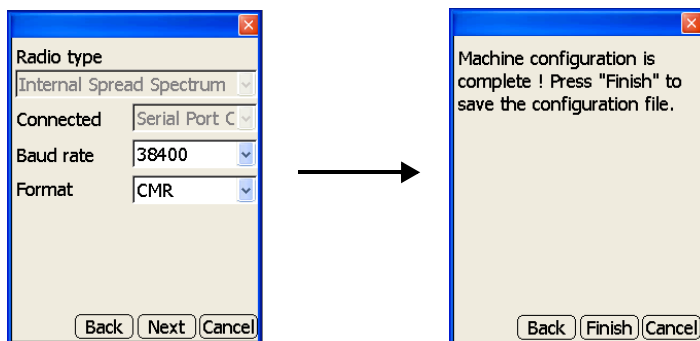

Figure 2-45. Radio Setup Dialog Box
5. Set the following radio parameters, and press **Next** to continue (Figure 2-45):
6. Press **Finish** to save the configuration file. Pressing **Cancel** will cause the configuration's information to be lost (Figure 2-45).